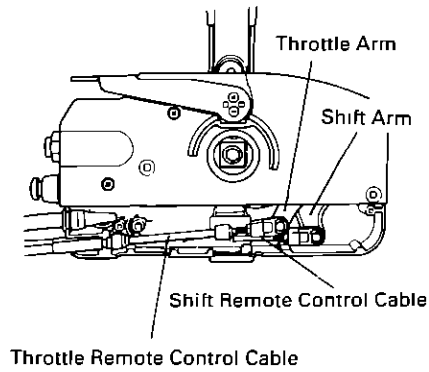

Fig. 7
- ⑤ Connect the Throttle Remote Control Cable to the Throttle Arm same as ③. (Fig. 7)